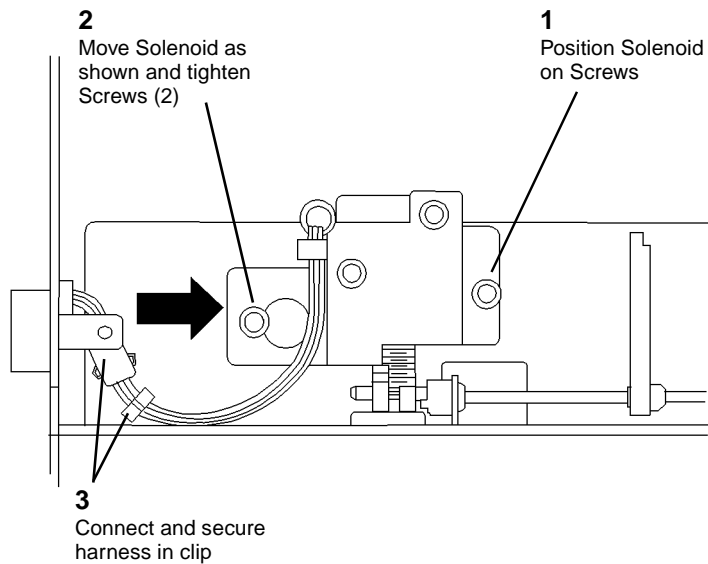

Figure 3 Installing Set Gate Solenoid Assembly
2. Install Set Gate Solenoid Assembly (Figure 3).